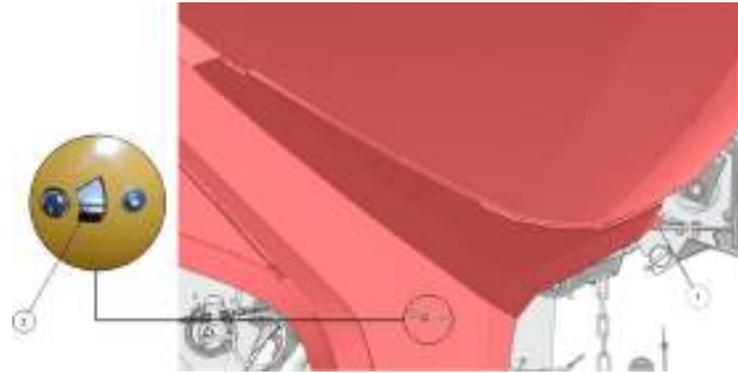

Figure 8. Open the side cover
1. Turn the lever (1) (see Figure 8 on page 2-20)
2. Use the lock (2) to open the cover.